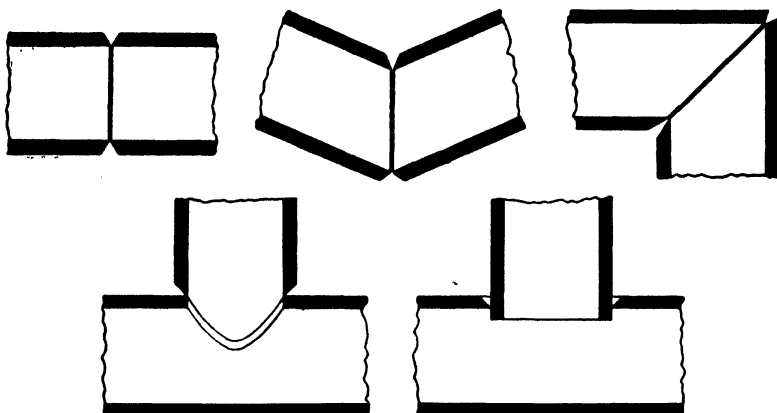

Fig. 66. Various Pipe Joint Welds
**Tubes and Pipes.** Various tube and pipe welds are given in Fig. 66.